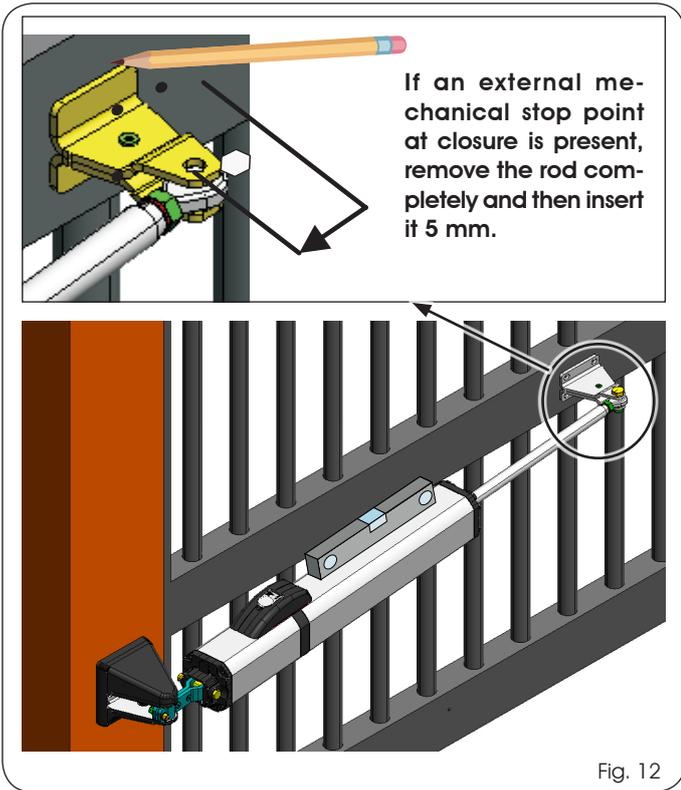

Fig. 12
11. Establish the fixing position of the front fitting on the leaf and mark the fixing points (Fig. 12) (the operator must be perfectly level).